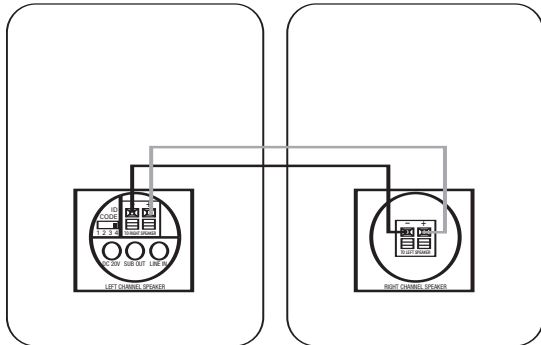

Figure 3.
Connect the speaker wire (included) to the push terminals on the active speaker ⑥ and the push terminals on the rear of the passive speaker ⑩. See Figure 3. Please note that the speaker wire supplied features a polarity stripe to help distinguish its two conductors. Use this polarity stripe to ensure that you are connecting the positive (+) terminal on one speaker to the positive (+) terminal on the other, and the negative (-) to the negative (-). It does not matter whether you use the striped conductor for connecting the positive (+) terminals or the negative (-) terminals.
Connect the speaker wire (included) to the push terminals on the active speaker ⑥ and the push terminals on the rear of the passive speaker ⑩, as shown in Figure 3. Please note that the speaker wire supplied features a polarity stripe to help distinguish its two conductors. Use this polarity stripe to ensure that you are connecting the positive (+) terminal on one speaker to the positive (+) terminal on the other, and the negative (-) to the negative (-). It does not matter whether you use the striped conductor for connecting the positive (+) terminals or the negative (-) terminals.
Connect the speaker wire (included) to the push terminals on the active speaker ⑥ and the push terminals on the rear of the passive speaker ⑩, as shown in Figure 3. Please note that the speaker wire supplied features a polarity stripe to help distinguish its two conductors. Use this polarity stripe to ensure that you are connecting the positive (+) terminal on one speaker to the positive (+) terminal on the other, and the negative (–) to the negative (–). It does not matter whether you use the striped conductor for connecting the positive (+) terminals or the negative (–) terminals.